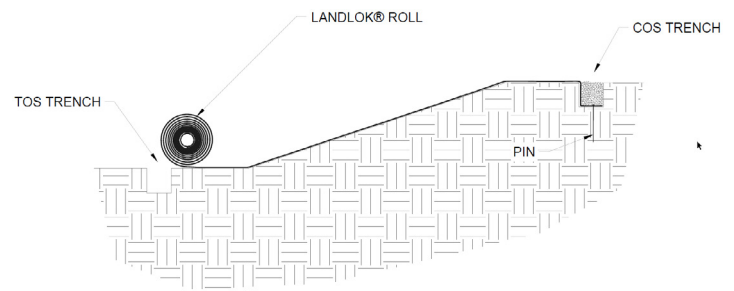

Figure 6: Placement of PROPEX Landlok TRM across Slope
5. Unroll the **PROPEX** Landlok TRM roll on the slope surface in the area to be armored (Figure 6). Ensure that the TRM has intimate contact with the ground and all irregular surfaces beneath it are removed.